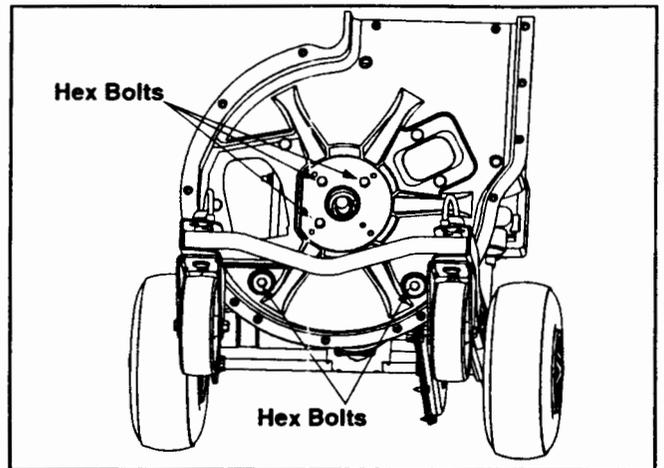

Figure 17
- Remove the inner housing and mounting adapter by removing the five hex bolts and two hex nuts. See Figure 17.
- Place the inner housing against mounting adapter and frame. Secure with the five hex bolts and two hex nuts previously removed. Refer to Figure 17.